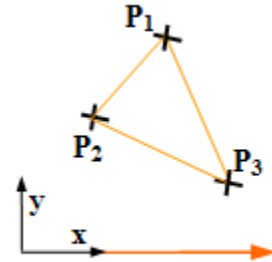

Fig.1
1. (15) Apply mirror transformation matrix with respect to x axis on triangle (Fig.1) formed by end points P_1 (2,3), P_2 (1,2), P_3 (3,1). Sketch the results.